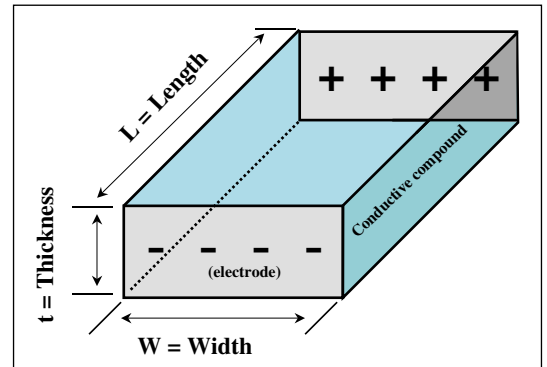
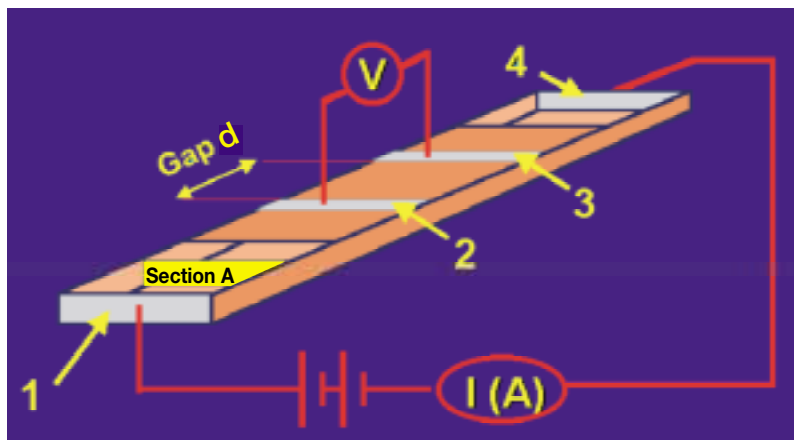

Figure 6: Two-point Volume Resistivity Test
Figure 8: Four-Point Volume Resistivity Test
- Volume Resistivity (VR) in Ohm.cm (Figure 6 and Figure 8).
Volume resistivity is measured according to Cabot Test Method (CTM) E043, based on ASTM D4496 (Figure 6).
The schematic diagram of the test circuit is given in Figure 8.